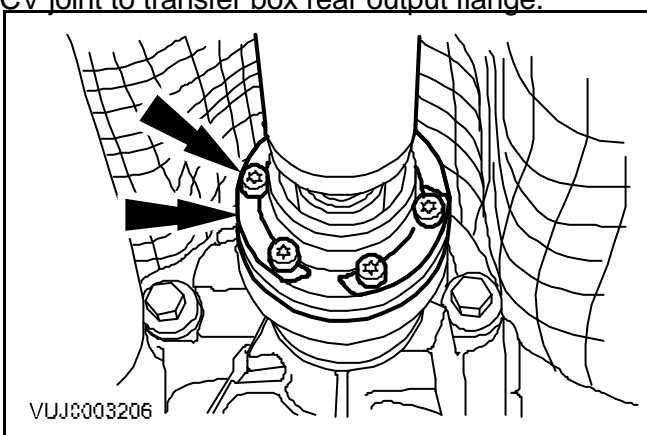

Fig. 4
- 17 Install new locking links and driveshaft front CV joint to transfer box rear output flange securing screws and tighten to 44 Nm (see Fig. 4).